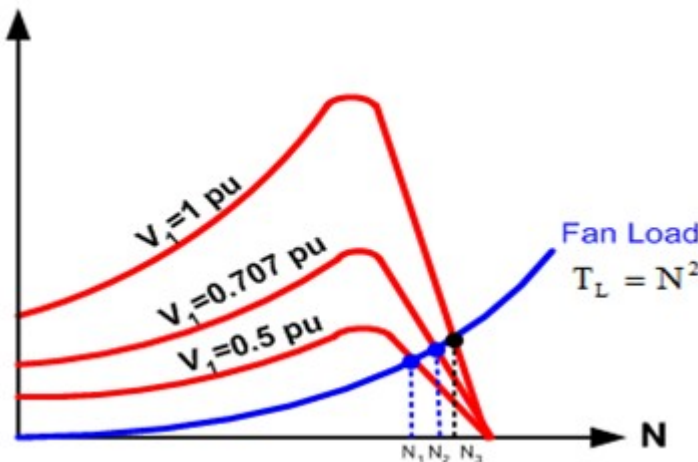

Figure 3-31 Torque-speed characteristics with various terminal voltage
- A set of torque-speed characteristics with various terminal voltages is shown in figure 3-31.